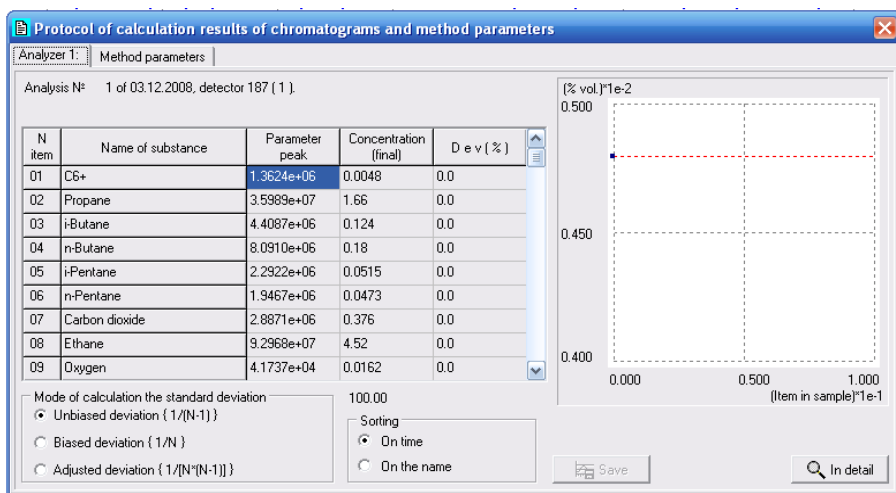

Figure 3.8.
- the  button on the *Additional toolbox 2*, and the «*Protocol of calculation results of chromatograms and method parameters*» (see Fig.3.8) dialog window is activated.